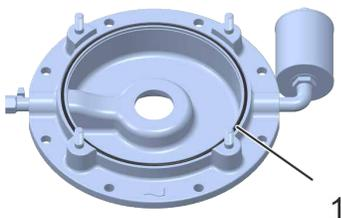

Fig. 102 Inserting the O-ring (example: herborner.F-N/herborner.F-N-PM)
7. Put the O-ring (Fig. 102/1) into the depression in the intermediate casing.